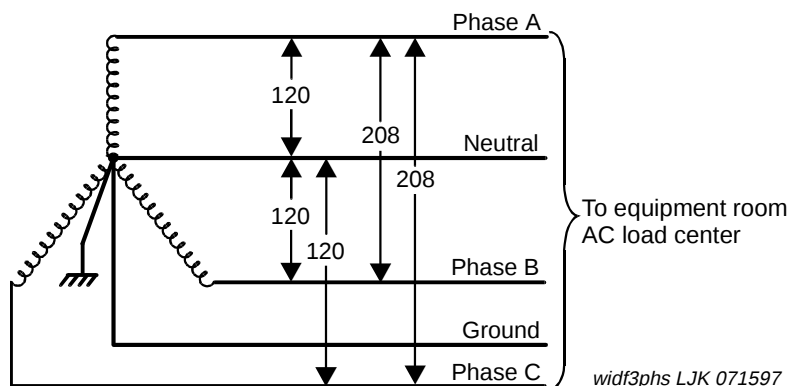

Figure 19. Three-Phase, 120/208 VAC, 60 Hz Source
- Three-phase, 5-wire, 208 VAC. See Figure 19 on page 55.